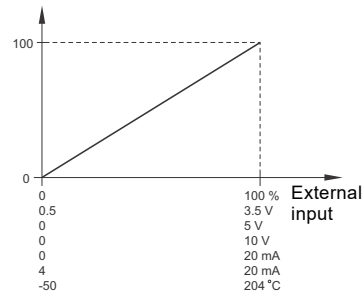

Fig. 24 Linear function
- Linear function. The setpoint is influenced linearly from 0 to 100 %. See fig. 24.